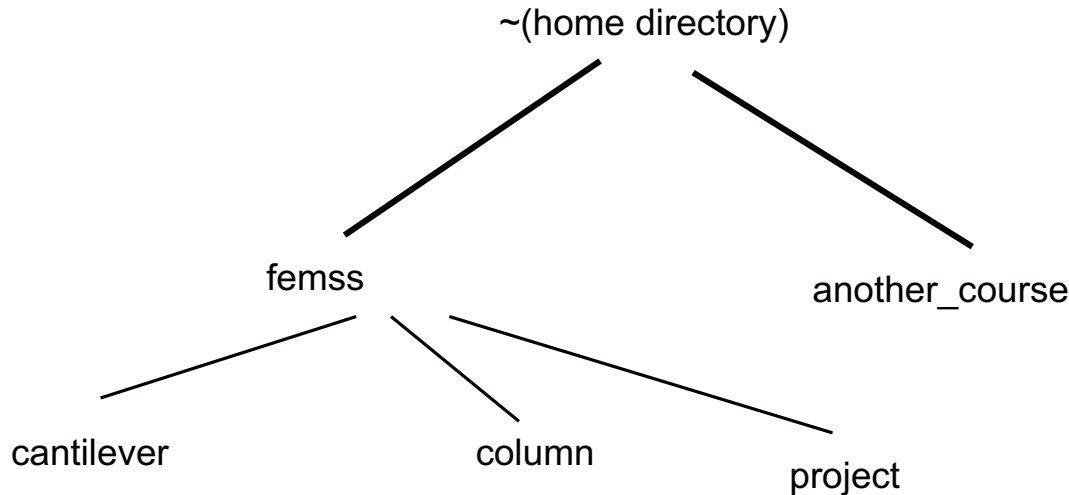

Figure 1: Directory tree structure. All directory and file names are case sensitive
Every time you log on you will immediately be placed in your home directory `/home/username` (the “tree trunk”). The home directory can be abbreviated with the symbol `~` for purposes such as moving between directories or creating files. When you log in for the first time there will be no subdirectories under your home directory (the fattest “branches” in Figure 1).
A typical example of a sensible directory structure is shown in Figure 1.
3. **ggv**: is the command for invoking the package ‘ghostscript’ used to view postscript figures. You can store the final version of all your ABAQUS figures in postscript files (a graphics language). You can use ghostscript to check what a figure (e.g. `fig1.ps`) would look like if you printed it, by typing
`ggv fig1.ps`